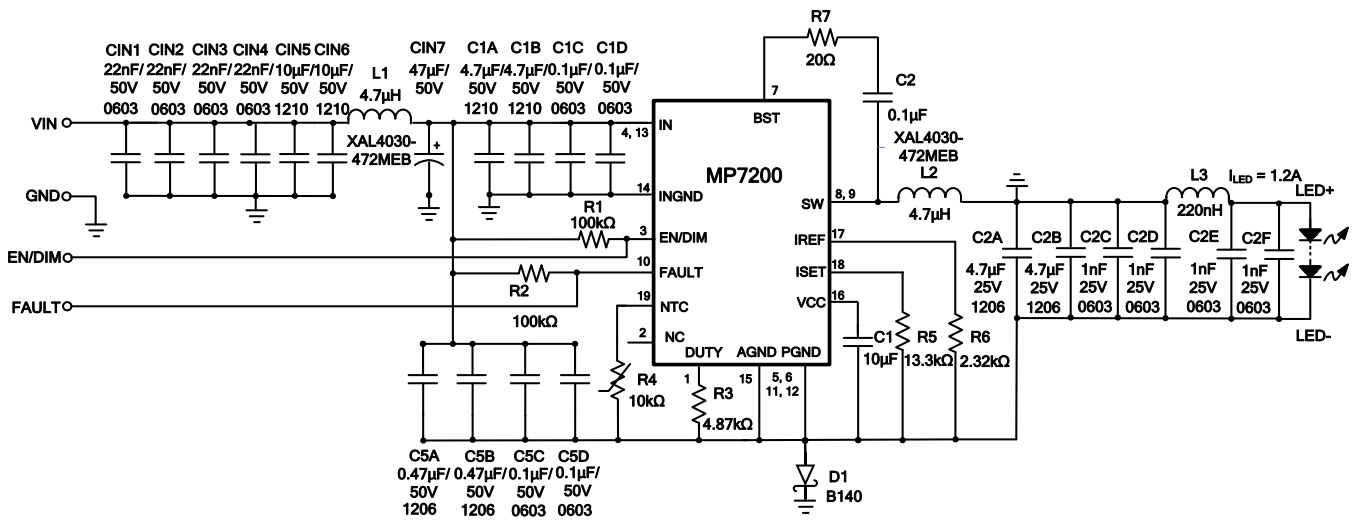

Figure 12: I_{LED} = 1.2A Buck-Boost Application Circuit with No Two-Step Dimming
- 14) The recommended layout is based on Figure 12.